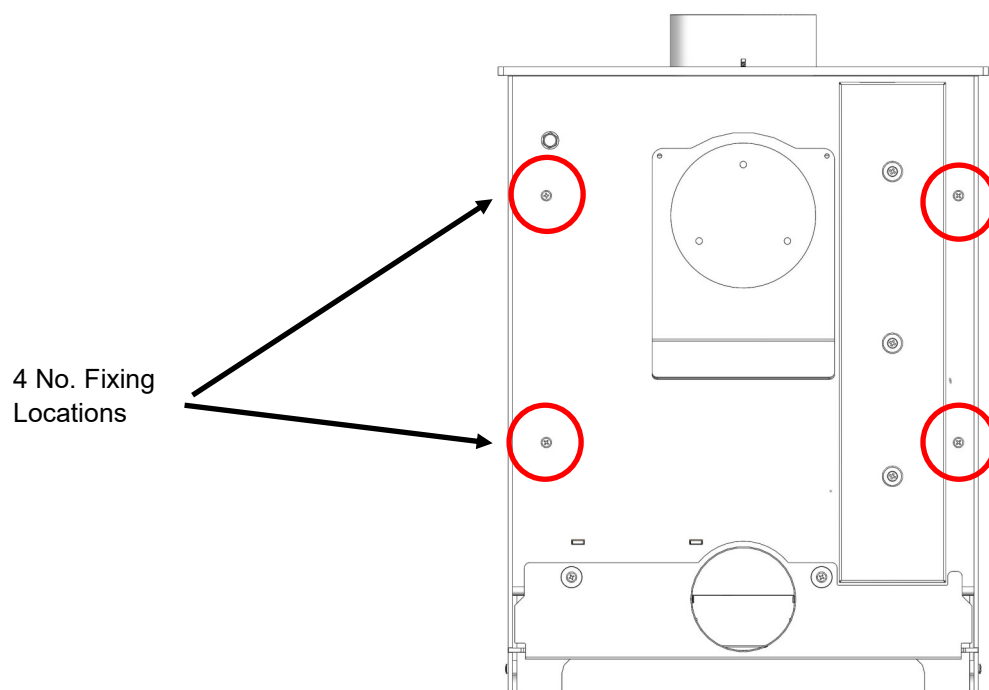

Figure 1. Fixing Locations
Step 1 : Working on the rear of the appliance, remove the 4x screw, indicated in figure 1.